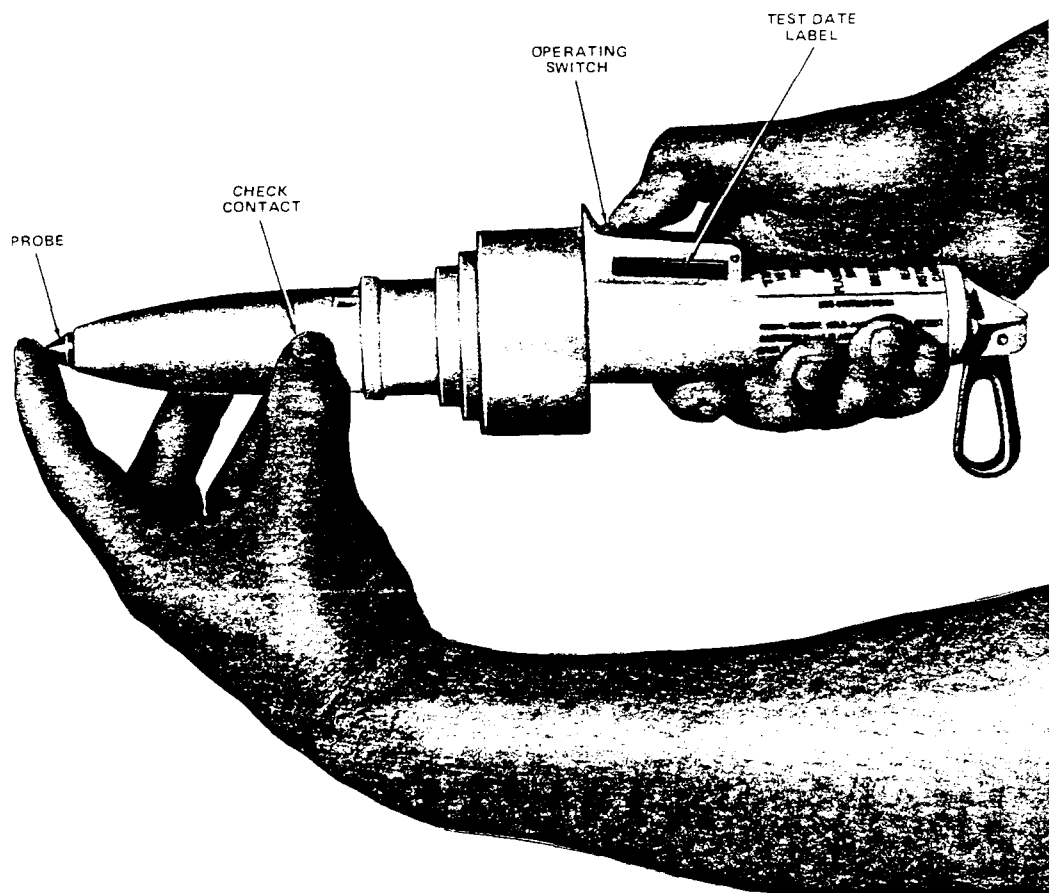

Fig. 13--Checking Test Set Before Use
- (1) Examine the tester for any visual defects such as deep cuts or cracks. If there are any defects, the tester must be tested with the 1188A test set prior to use.
- (2) Grasp the 1SSA test set handle, using the bare hand. Depress the switch and verify that the green LED is lighted. If the green LED does not light, check batteries; replace if needed. Repeat the self-test. If the green LED still does not light, do not use.
- (3) With the switch depressed, touch both the probe tip and the "check contact", using the free hand (Fig. 13). Remove the free hand; the red LED should flash. If it does not, do not use.